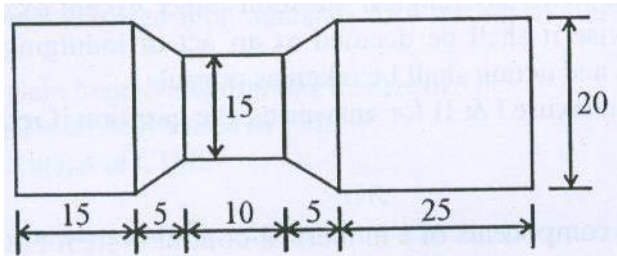

Figure 1
- (b) Write a part program for component shown in Figure.1. **07**